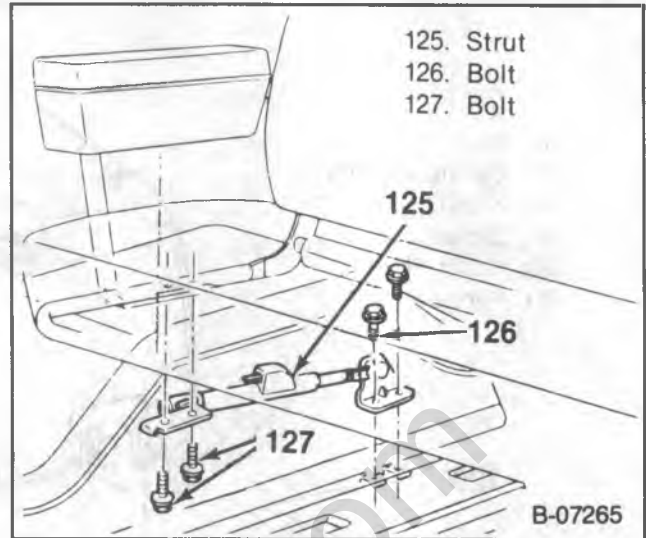

Figure 22 — Utility Vehicle Storage Strut
- ↔ **Remove or Disconnect (Figure 22)**
- 1. Strut (125) to floor bolts (126).
- 2. Strut (125) to seat bolts (127).
- 3. Strut (125) from the vehicle.
- ↔ **Install or Connect (Figure 22)**
- 1. Strut (125) to the vehicle.
- 3. Strut (125) to floor bolts (126).